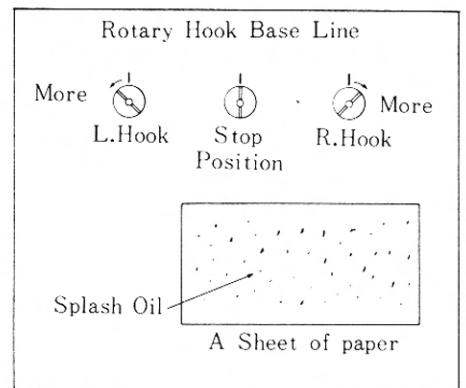

Figure 6
6. Adjusting the Rotary Hooks Oil Flow (Figures 6 and 7)
With the rotary hooks removed, place a sheet of paper over the bobbin case. Operate the machine using the button switch inside the control box. In approximately 10 seconds, the oil scattered from the rotary hooks should look like Figure 6. If it does not, adjust the screws shown as (L). The left screw adjusts the left hook; turn counterclockwise for more oil. The right screw adjusts the right hook; turn clockwise for more oil.